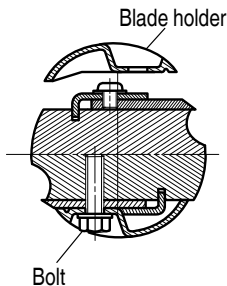

Fig. 31
- (2) Place the blade holder on the completed assembly, as shown in Fig. 31, and fasten it with the three bolts. Ensure that the bolts are securely tightened.